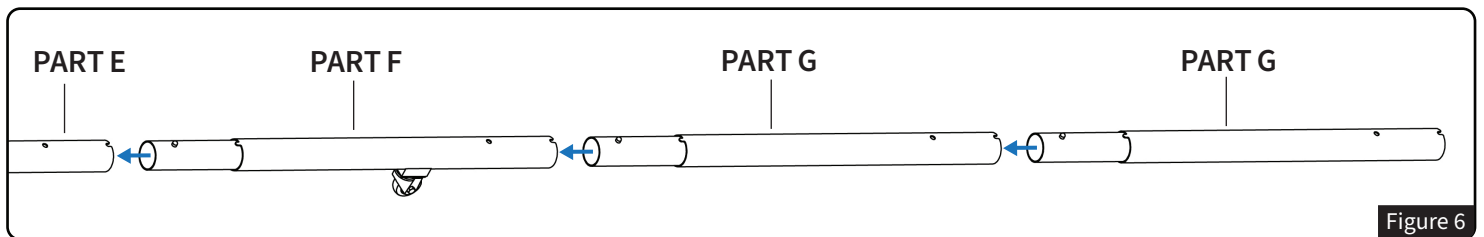

Figure 6
- Assemble the second section of the center frame in the **opposite order** as shown in *Figure 6*.